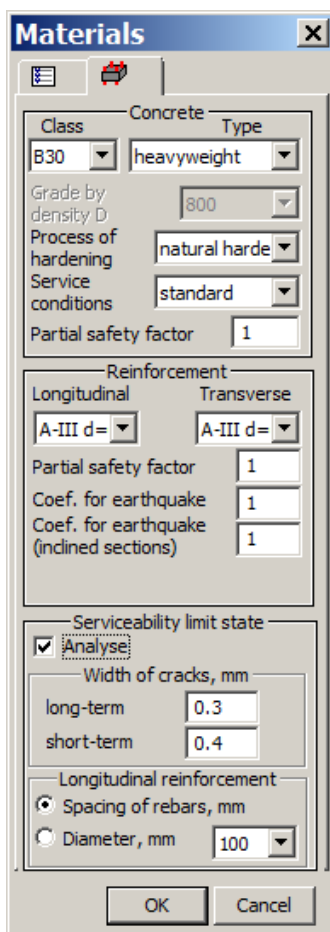

Figure 2.2.1. **Materials** dialog box
- ⇒ In the dialog box, on the **Materials** tab (see Fig.2.2.1), evaluate the data: